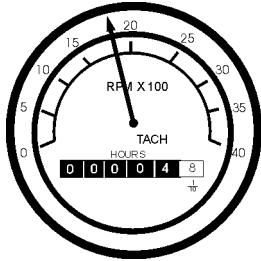

Figure 52. Engine Tachometer
16. The tachometer (Figure 52) will indicate the speed of the engine when the generator is operating. Under normal operating conditions this speed should be approximately 1800 RPM's.